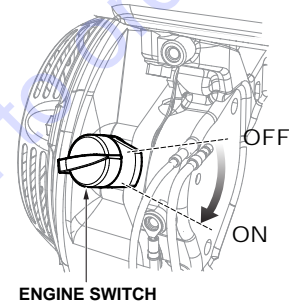

Figure 17. Engine On/Off Switch
4. Turn the engine switch (Figure 17) to the ON position.